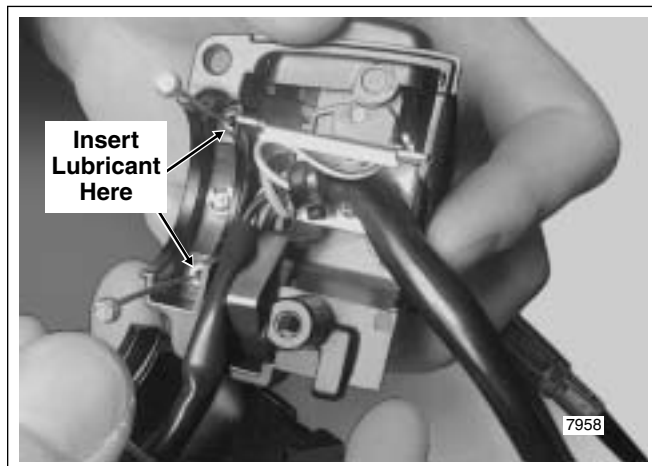

Figure 2-112. Right Handlebar Lower Switch Housing
3. Obtain tube of Lubit-8 Tufoil Chain and Cable Lube (HD Part No. 94968-85TV- 1/4 fl. oz.). Insert pin of tube between throttle cable and cable housing inside lower switch housing. Squeeze tube to squirt a quantity of lubricant into cable housing moving pin around cable OD. See Figure 2-112.